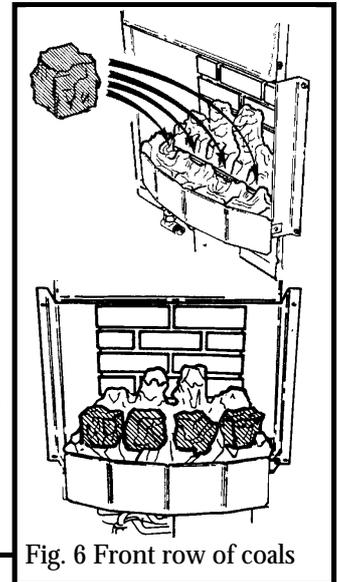

Fig. 6 Front row of coals
4.1 Select the two smallest coals and put them aside until all the other coals are installed. Place four of the medium size coals in the four valleys of the front coal. Place the left side coal so that the pilot flame will be visible. (See figure 6).